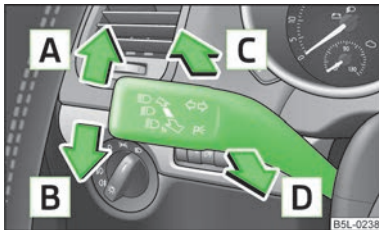

Fig. 29
- Push the lever » Fig. 29 upwards  or downwards .